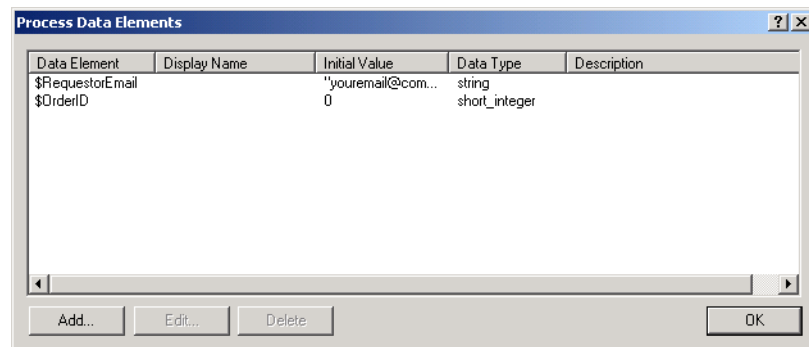

Figure 28-7. The completed Process Data Elements dialog box, with two process data elements.
- 6 You’ve now created all the process data elements you need for this tutorial. Compare your Process Data Elements dialog with Figure 28-7, below.